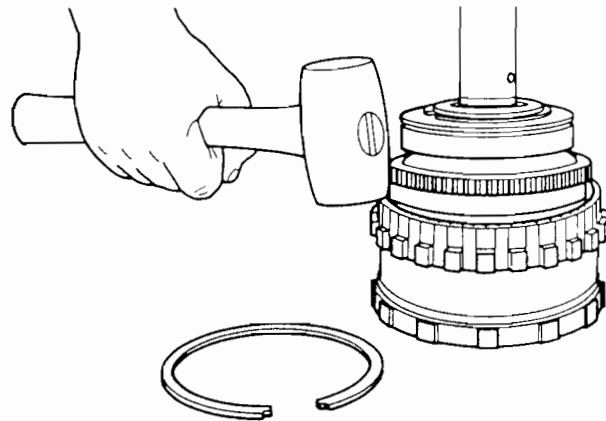

FIGURE 31
20. To remove the annulus (one snap ring secures it to the output shaft) a light tap with a soft mallet will pop it off the shaft (Figure 31). Now the only component left is the output shaft front bearing which is a slip fit on the shaft.